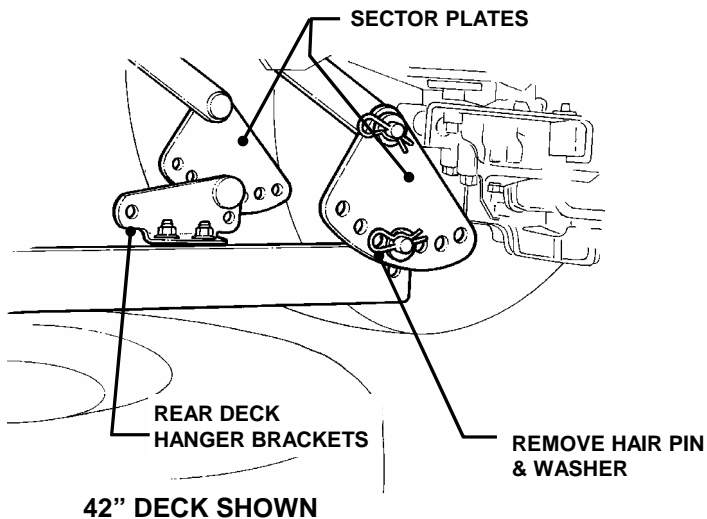

FIGURE 4.28
11. Slide sector plates off of rear deck hanger brackets. See Figure 4.28.